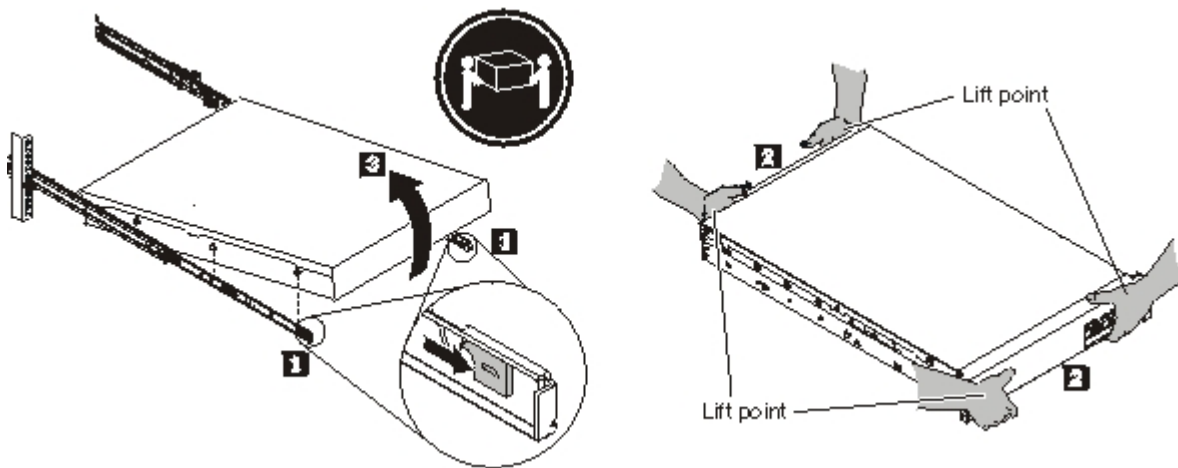

Figure 20. Unlatching and rotating the front of the appliance
**Note:** Make sure two people lift the appliance, with hands positioned as illustrated by **2** in Figure 20 on page 50.
1. Unlatch and rotate the front of the appliance, as shown in Figure 20 on page 50.